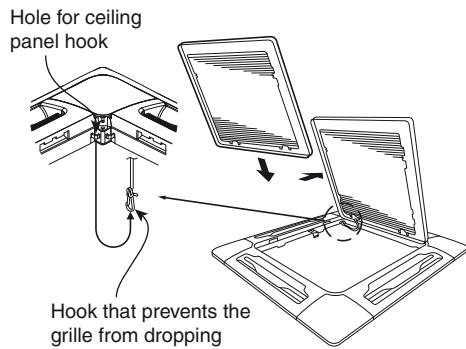

Fig. 7-13
- (2) Use the supplied screws to attach the corner cover to the ceiling panel.
- **Be sure to attach the safety cord to the ceiling panel unit. This keeps the air intake grille from accidentally dropping. (Fig. 7-13)**